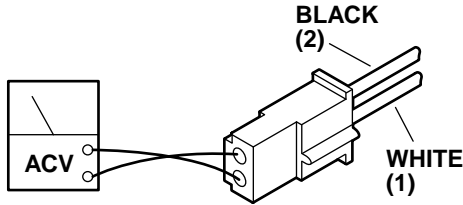

Figure 6-3. Connector CN15 Test
3. Use an AC voltmeter capable of measuring 120 VAC and measure the voltage between pins 1 and 2 (black and white wires) located in connector CN15. See figure 6-3. You should receive line voltage 120 VAC.